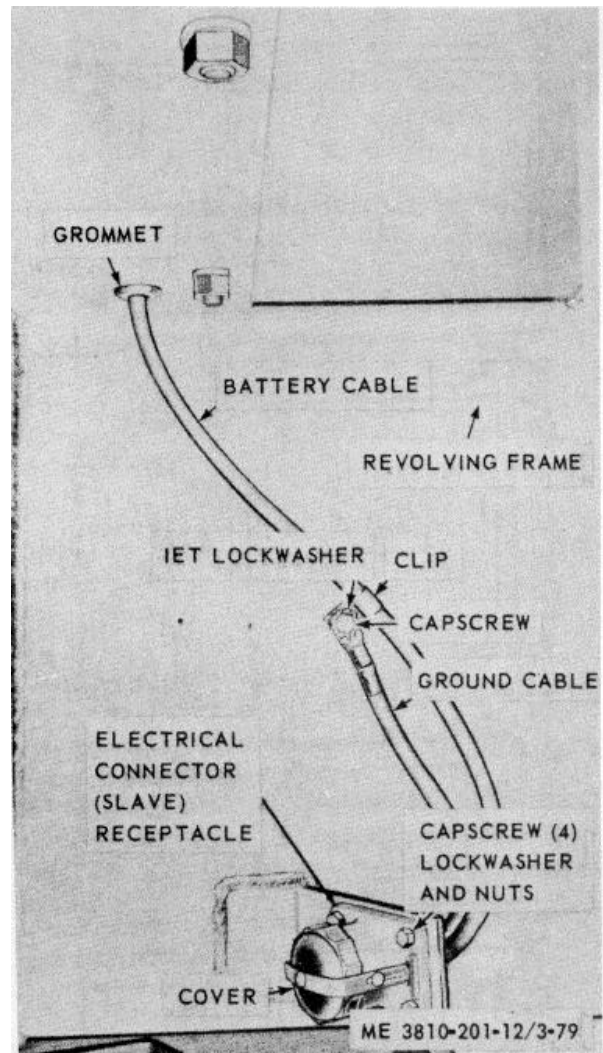

Figure 3-79. Receptacle (slave) electrical connector, removal and installation.
(1) Remove capscrew, lockwasher, and ground cable (fig. 3-79).